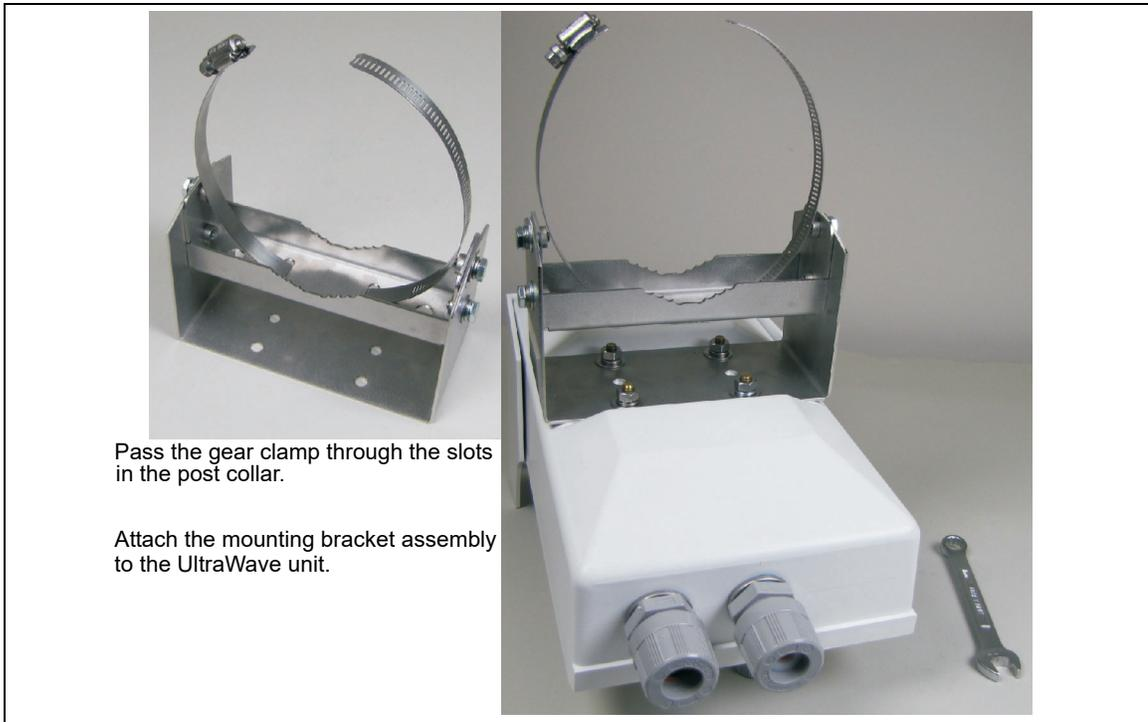

Figure 14 Post-mounting procedure
2. Using an 11 mm (7/16 in.) wrench and the supplied hardware (hex nut, lock washer, flat washer - X4) attach the mounting bracket assembly to the UltraWave unit (see Figure 14).